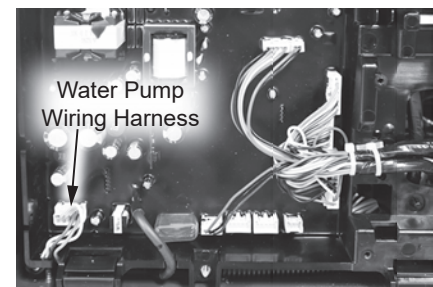

Figure 161 - Water pump wiring harness location
- 14 Locate the water pump wiring harness on the control board panel as shown in Figure 161. Disconnect and route the wiring out of the way for ease of removing the water pump.
**35** Lift the control board panel up and reconnect the water pump wiring harness previously disconnected in **Step 14**. Slide the wiring through the slot in the circuit board panel as shown in Figure 161. Lower control board panel.